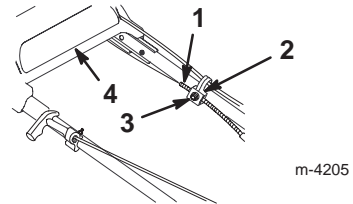

Figure 22
3. Loosen the cable support nut (Fig. 22).
5. With the upper handle pushed back as far as possible and while holding the drive bracket down, pull the cable jacket down (toward the lawn mower) until there is no slack in the cable (Fig. 22).
6. Tighten the nut on the cable support (Fig. 22).